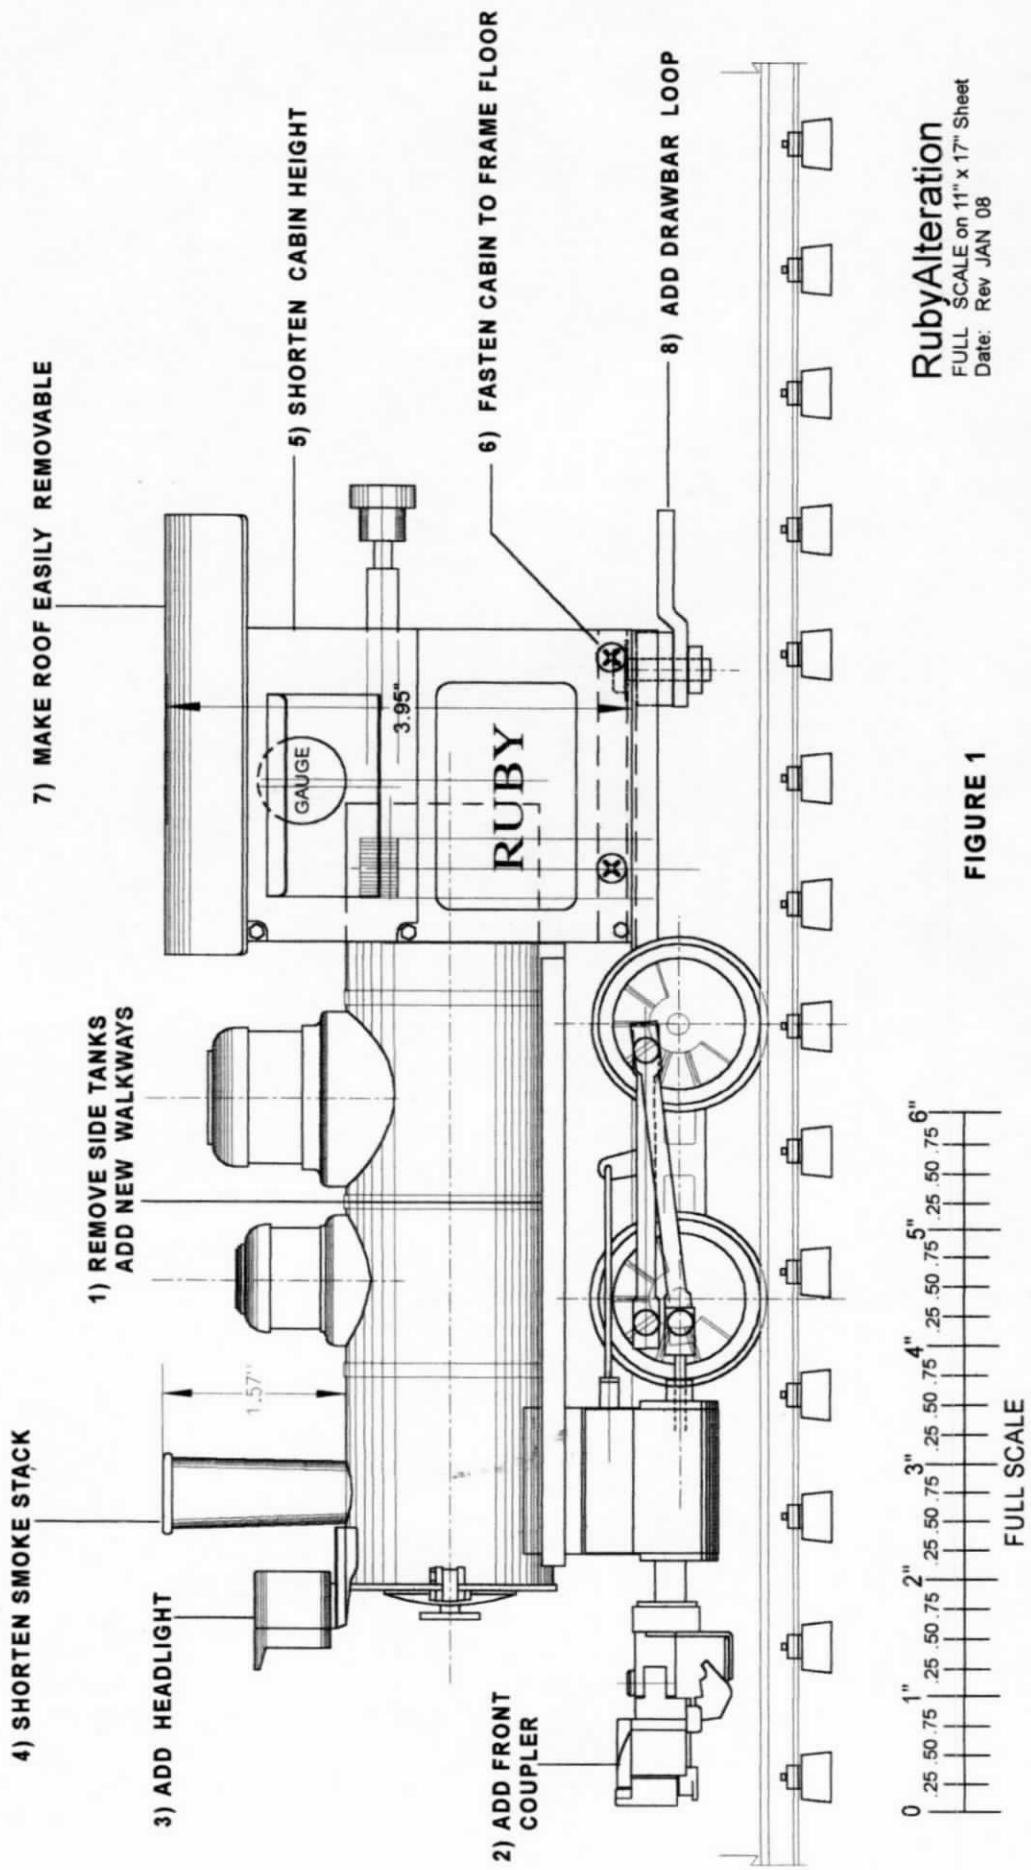

FIGURE 1
Refer to figure 1 which shows RUBY and gives 8 steps for the revisions to be made. Most of these are easily made, though some are rather difficult. The most difficult is shortening the cabin. The easiest is...
STEP 3: Adding a (non-working) headlight. The headlight is one of two purchased from Ozark Miniatures, Inc. The second one is mounted on the sloped-back tender. Fashion a bracket from a small piece of the same 0.015" thick sheet stock that will be used to make the tender parts. This bracket will be about 1/2" wide, flat on top with a bent down section and flare-out on each side. Fasten the bracket (at the two side flares) to the top of the boiler as shown in figure 1, with Goop and mount the headlight to the top flat surface of the bracket with Goop.